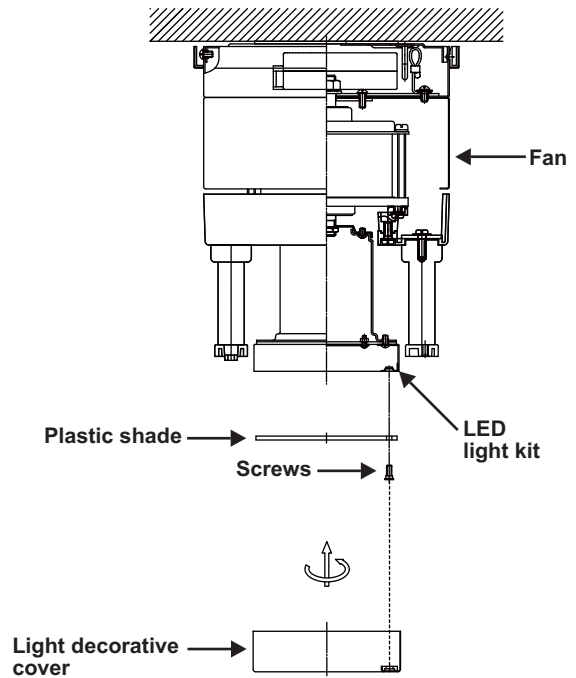

Figure 14
1. Attach the plastic shade to the LED light kit with the 2 screws provided. (Fig. 14)
3. Raise light decorative cover up against the LED light kit and secure it to the fan by turning the light decorative cover clockwise until snug. **DO NOT OVERTIGHTEN.** (Fig. 14)